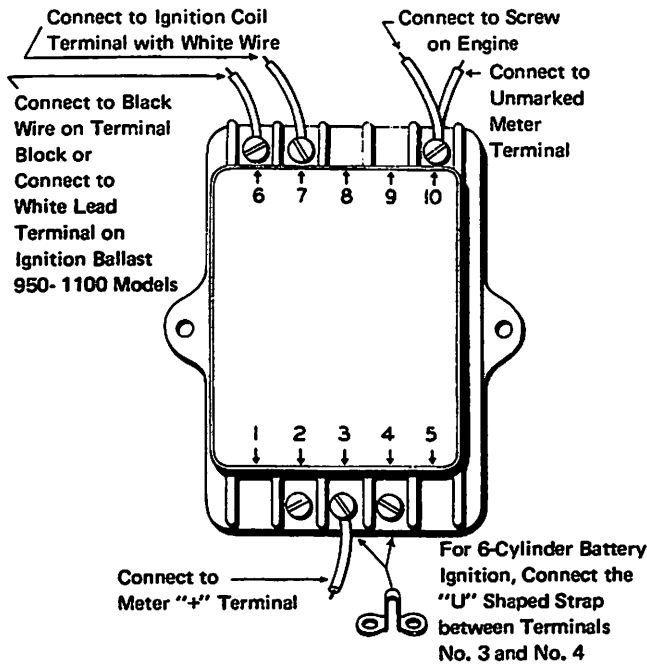

Figure 3. Wiring for 6-Cyl. Battery Ignition System
1. Connect terminals Nos. 3 and 4 together with "U" - shaped strap. (Figure 3)